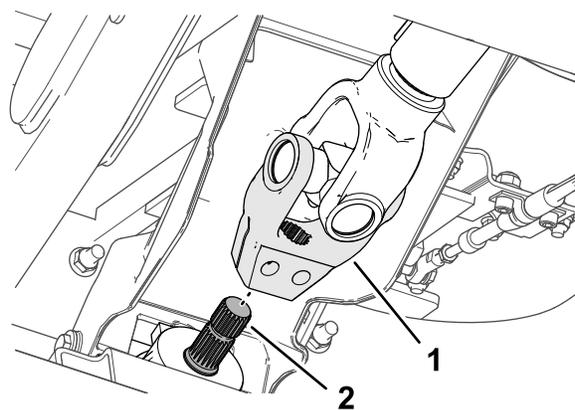

Figure 17
5. Align the splines in the driveshaft yoke onto the splines of the attachment input shaft (**Figure 17**), and slide the yoke over the shaft.